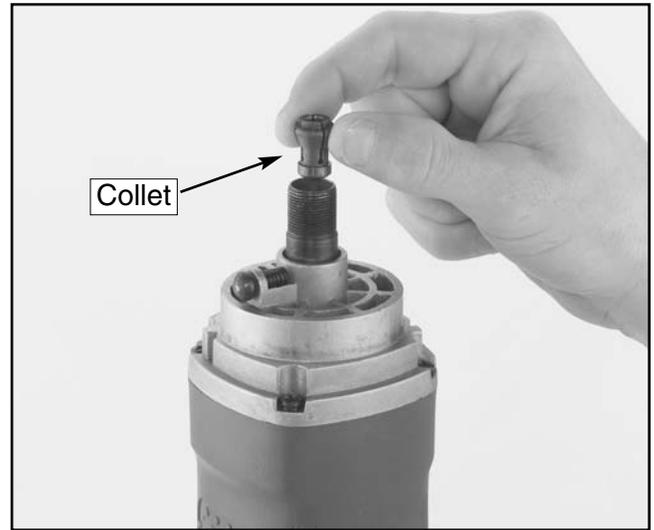

Figure 3. Inserting collet.
2. Once the collet nut is removed, you will be able to insert the 1/4" collet into the spindle shaft as shown in **Figure 3**.